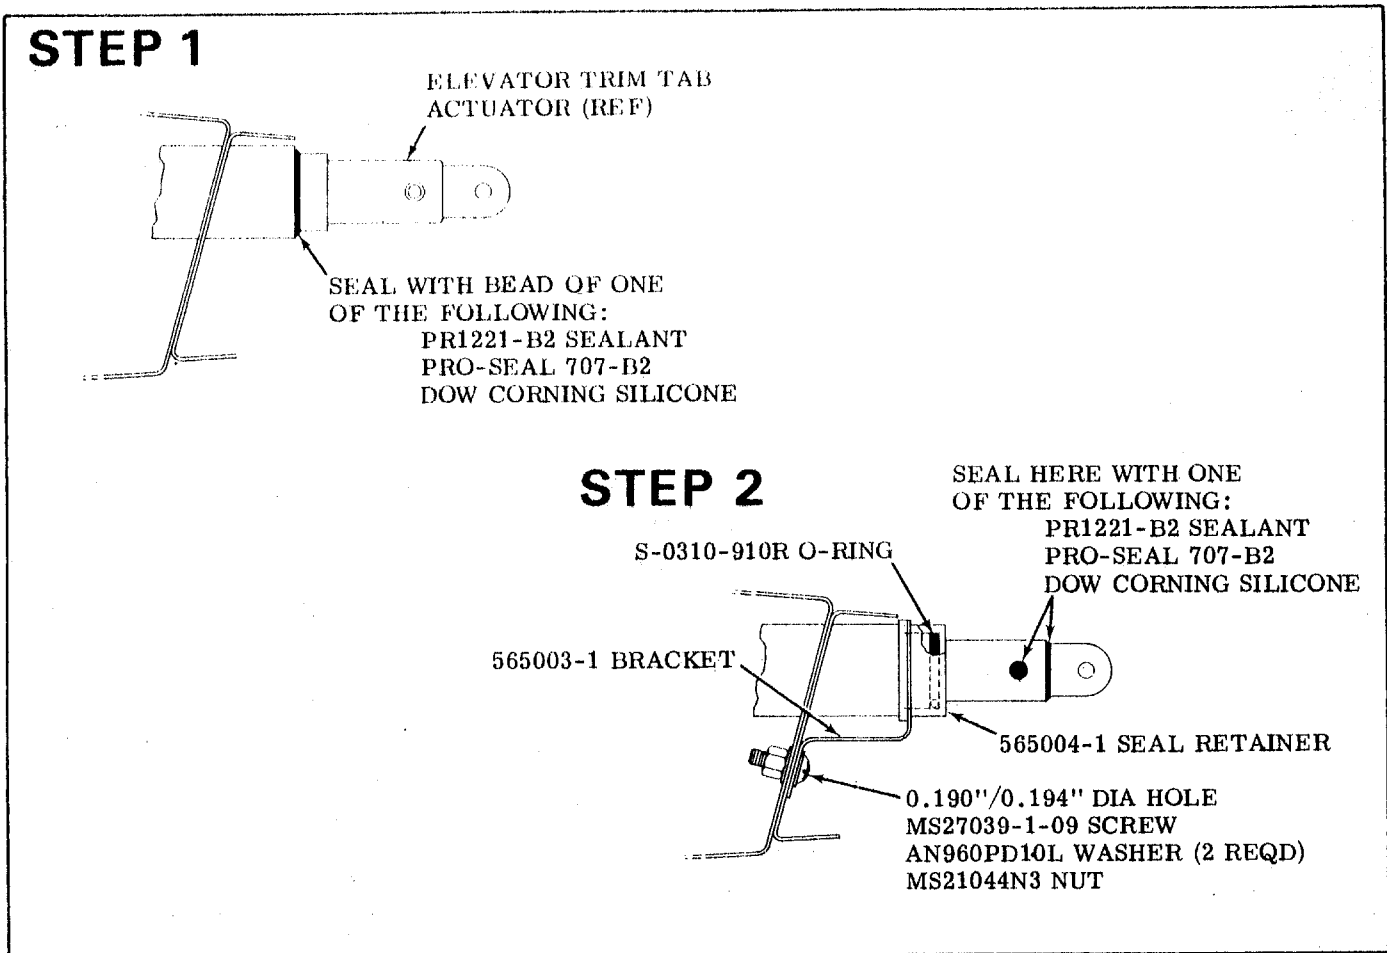

Figure 1.
4. Add a bead of PR1221-B2 sealant, or Pro-Seal 707-B2, or Dow Corning Silicone around elevator trim tab actuator as shown in Figure 1.
5. Install S-0310-910R O-ring, 565004-1 seal retainer and 565003-1 bracket on elevator trim tab actuator, drill a 0.192 (\pm 0.002) inch diameter hole through bracket and elevator spar and install MS27039-1-09 screw, AN960PD10L washer (2 places) and MS21044N3 nut (see Figure 1.).
6. Cover clevis joint and both ends of roll pin with either PR1221-B2 sealant, Pro-Seal 707-B2 or Dow Corning Silicone (see Figure 1.).